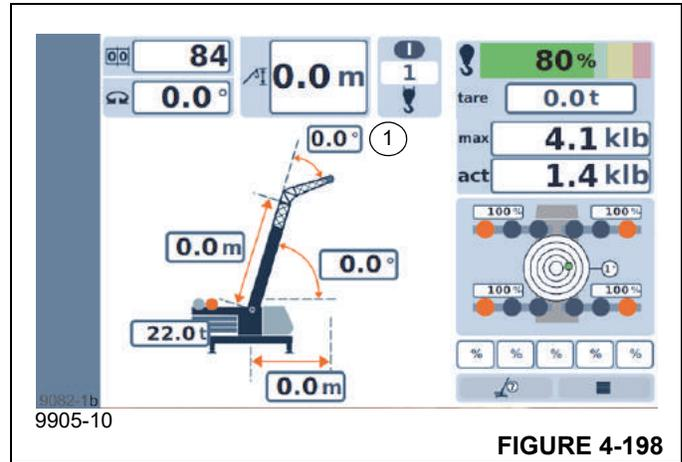

FIGURE 4-198
- **Lifting/lowering lattice extension:** Shows the current lattice extension angle (1, Figure 4-198) in relation to the main boom in degrees.
- **Lattice extension, can be angled:** Shows the angle of the lattice extension corresponding to the RCL code in degrees (1, Figure 4-198).